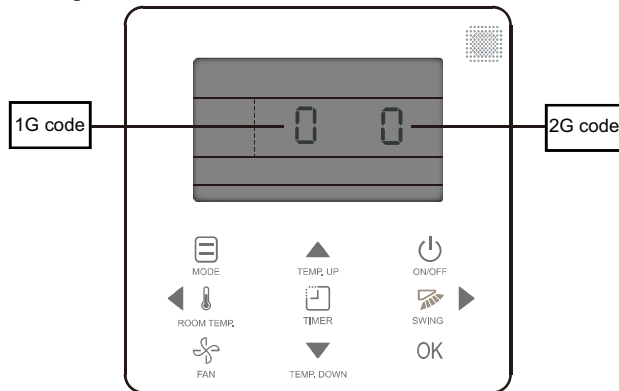

Fig. 15 —Parameter Setting Mode
1. Press and hold MODE and FAN at the same time for five seconds to enter the parameter setting mode as shown in Fig. 15.